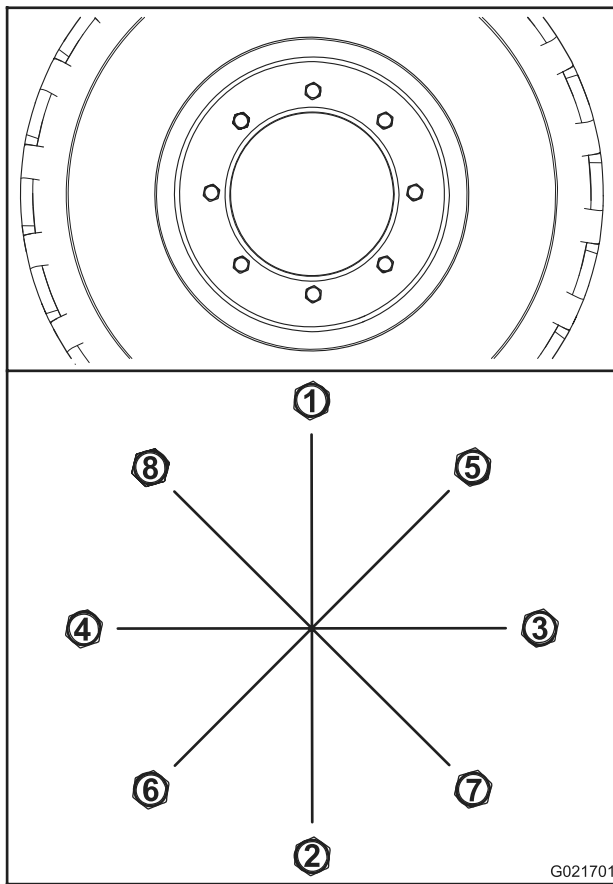

Figure 63
- A. Torque the all wheel nuts to 100 N-m (75 ft-lb) in the sequence shown in Figure 63.
- B. Torque all the nuts to 200 N-m (150 ft-lb) in the sequence shown in Figure 63.
- C. Torque all the nuts to 300 N-m (225 ft-lb) in the sequence shown in Figure 63.